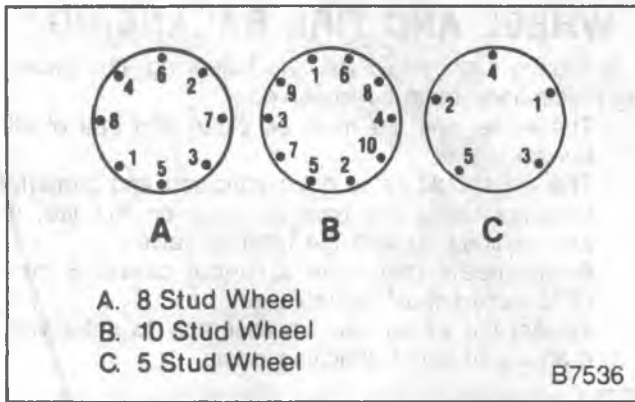

Figure 8—Wheel Tightening Sequence
↔ Install or Connect (Figure 8)
- Tighten evenly and alternately to avoid excessive runout (figure 8).